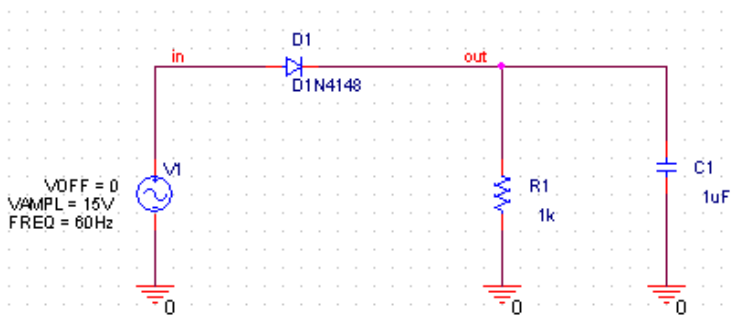

Figure 2.1. Simple Half Wave Rectifier
2.1. See the Figure 2.1 below which is a simple half-wave rectifier and filter. The RC components perform "filtering" of the rectified signal. Using Transient, simulate and plot the output voltage of the half wave rectifier, for the following RC combinations: